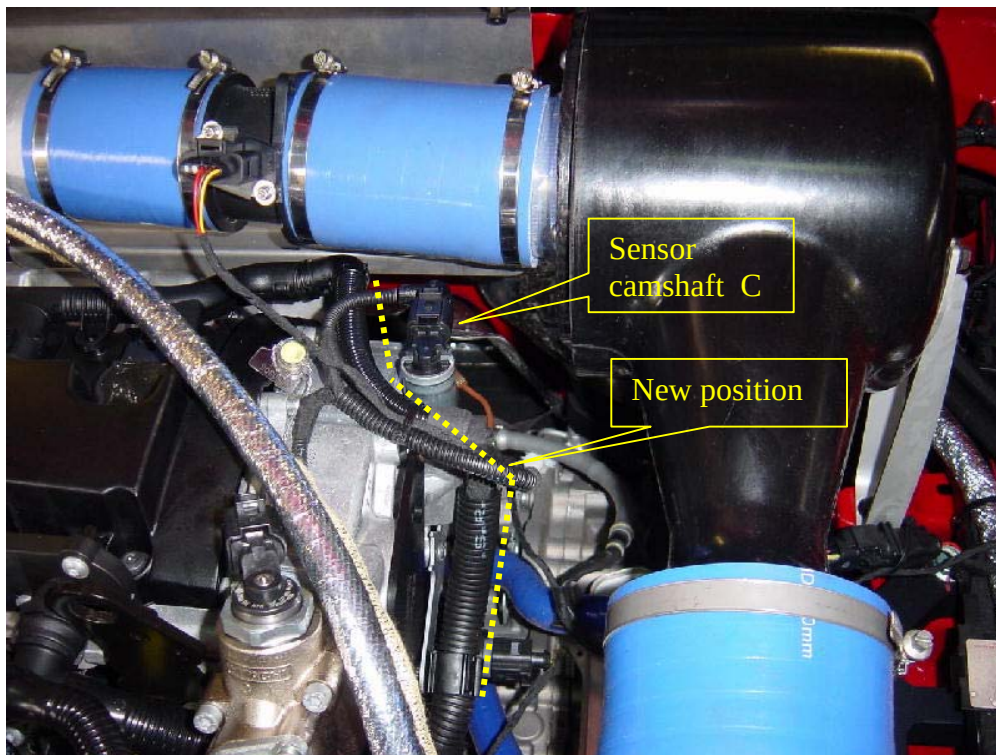

Fig 3
3. Disconnect camshaft "C" position sensor (Figure 3) and pass the wiring loom through the upper part of the butt cover, placing a plastic clamp in the lateral aluminium cover (black) and return to connect camshaft "C" position sensor. In figure 3, line of points shows the new layout.